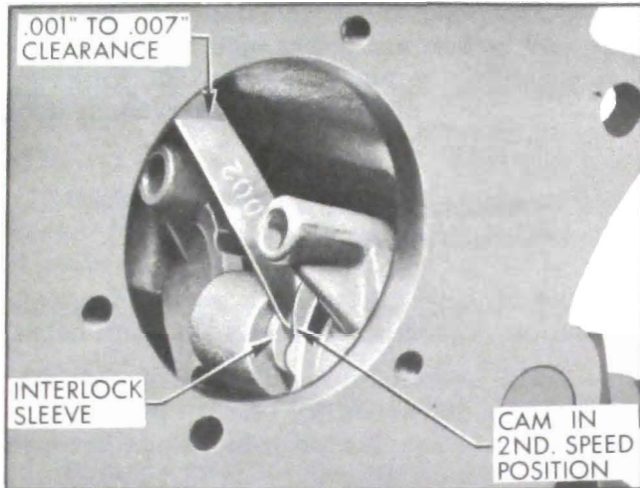

Figure 4-24—Checking Interlock Sleeve End Clearance
NOTE: It is not necessary to remove shift lever and interlock assemblies unless the interlock does not function properly and repairs are to be made to these assemblies. Badly worn parts will cause too much interlock sleeve end clearance. See Figure 4-24.
7. Shift second-third shift lever into second speed position. With one end of interlock sleeve against first-reverse cam, the clearance between sleeve and second-third cam should be .001" - .007". See Figure 4-24. If clearance